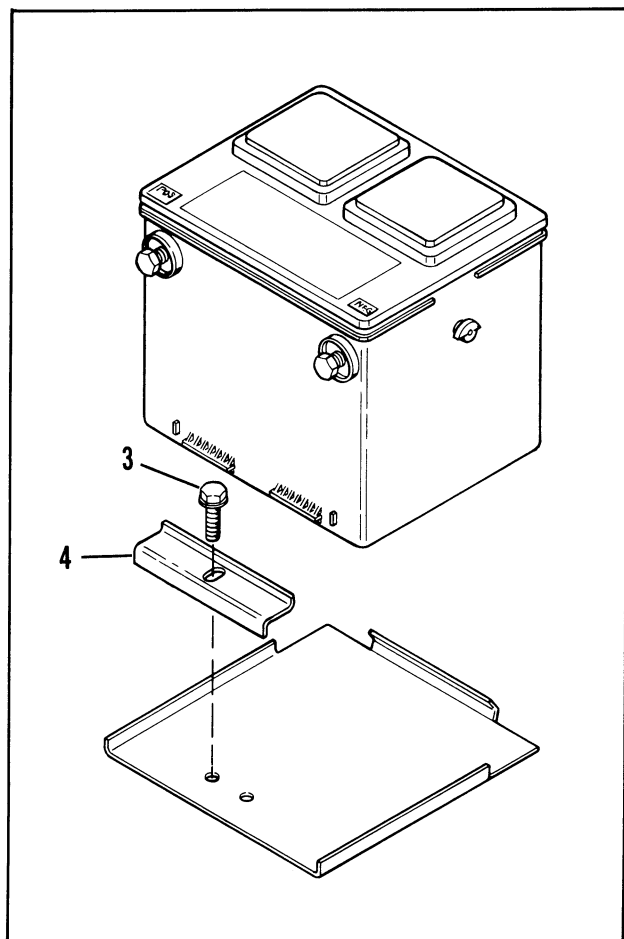

Figure 110 – Battery Removal
Removal (Figure 110)
- a. Thread a 3/8-16 bolt into each terminal, hand tight, Figure 110.